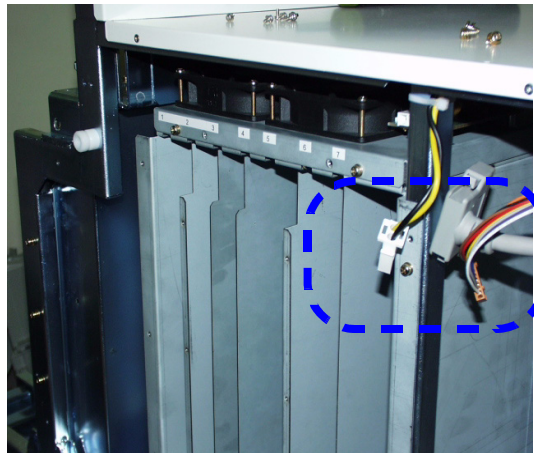

Figure 8-88 Removing the DC Fan Assy
- 3.) Unscrew the nine(9) screws from the Nest EMI Cover.
- 5.) Disconnect one (1) connector (1).
- 6.) Unscrew two (2) screws (2-3) to remove DC Fan Assy. Refer to Figure 8-88.